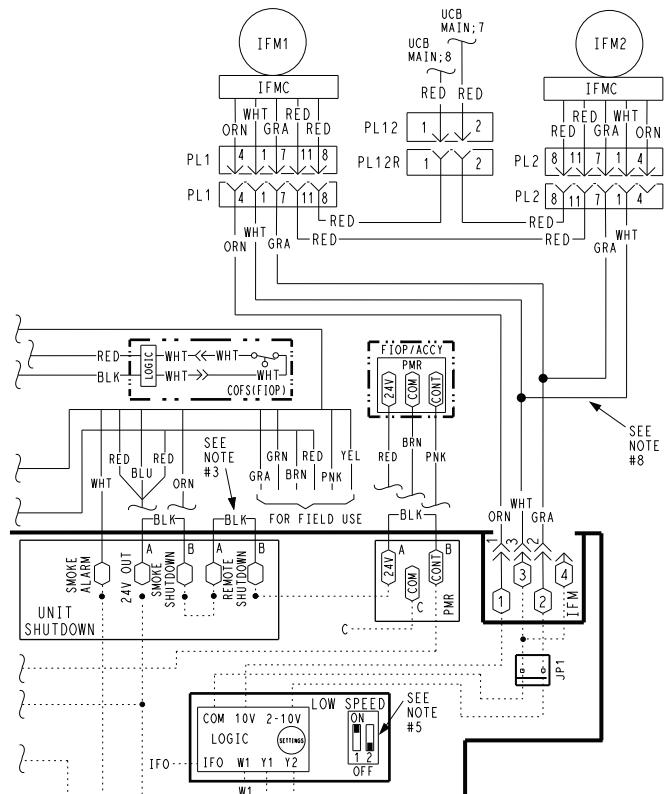

Fig. 11 – Supply Fan Control Wiring Diagram
8. Check for proper motor control voltage signal of 9.7 vdc to 10.3 vdc at IFM-1 (use JP1-2 or bottom pin of VDC terminal as common). See Fig. 11 and 12.
11. Verify control signal out to the motor by checking the voltage at JP1. Signal should be between 3.8vdc and 10.3 vdc. See Fig. 11 and 12.